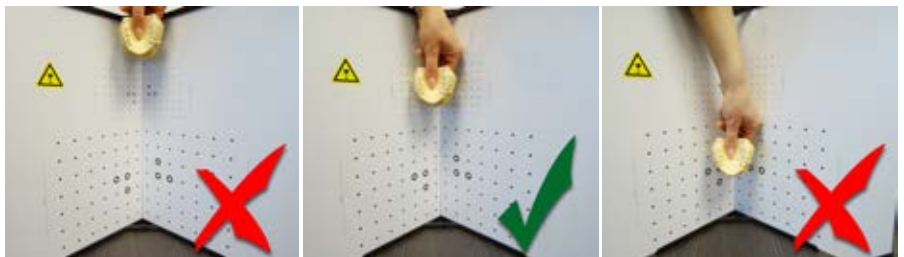

Figure 4.8: Calibration pattern too small
2. Choose the calibration pattern whose size fits to the scanned object. The pattern should be slightly larger than the object/region to be scanned (Fig 4.8). For object sizes above ca. 200 mm, use the large 240-mm pattern on the back.
For starters, the pattern should be folded inwards (Fig. 4.8). Advanced users can avoid undesired reflections with an outwardly folded pattern if necessary. Fix the glass calibration panels using the two fixing brackets to exactly 90°.